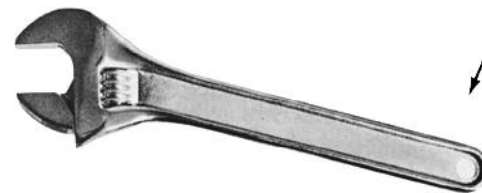

Fig. 1-10 Note the direction of applied force.
2. Tighten the adjustable jaw so that the wrench fits the nut or bolt snugly (Fig. 1-10).